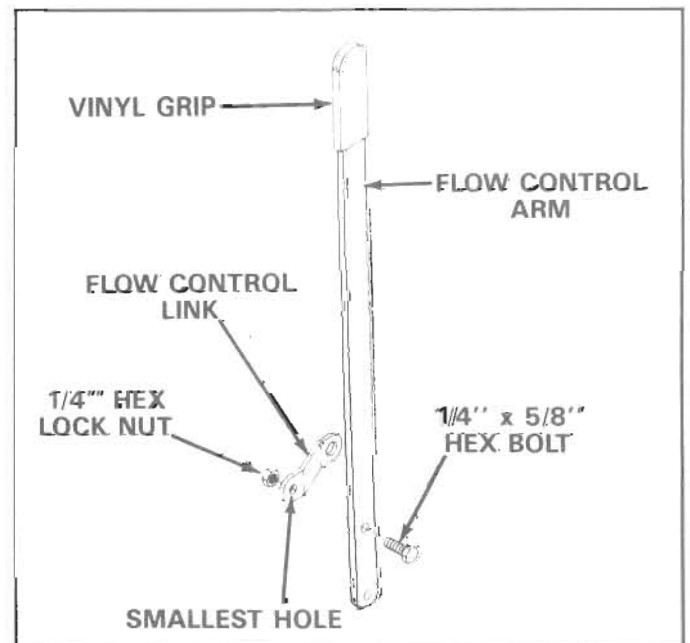

FIGURE 9
15. Assemble the flow control link (the end with smallest hole) to the flow control arm using one 1/4" x 5/8" hex bolt and one 1/4" hex lock nut. See figure 9. **DO NOT OVER TIGHTEN, FLOW CONTROL LINK MUST PIVOT FREELY.**
16. Place vinyl grip on the flow control arm. See figure 9.